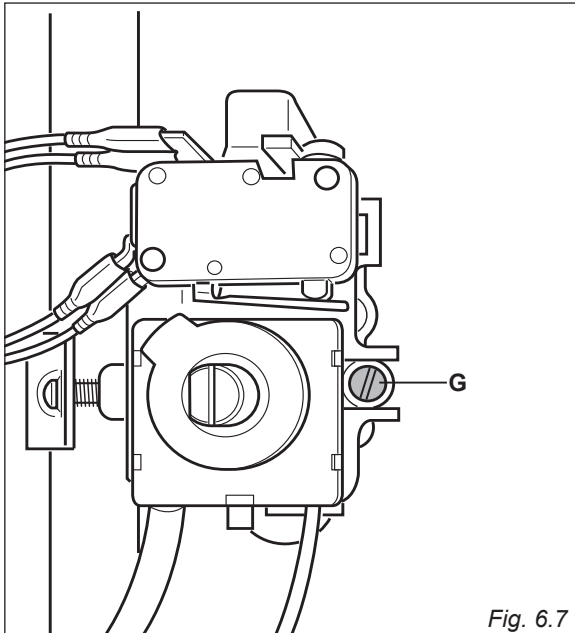

Fig. 6.7
- Remove the knob and unscrew the by-pass screw “G” (fig. 6.7) about three times by passing a small flat screwdriver (Ø 3 mm blade, 100 mm length) through the control panel opening.
- After having removed the knob again and being very careful not to turn the thermostat rod, slowly screw the by-pass screws “G” (fig. 6.7) until you obtain a flame of 3-4 mm in height.